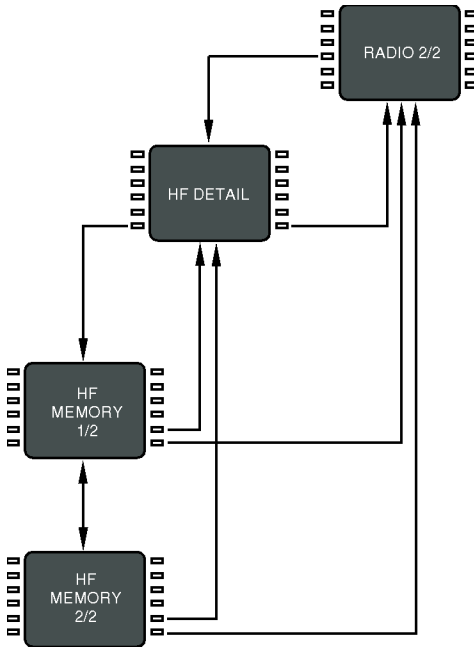

Figure 13-25
Figure 13-25 shows the sequence of screens associated with high frequency (HF) communication radios.